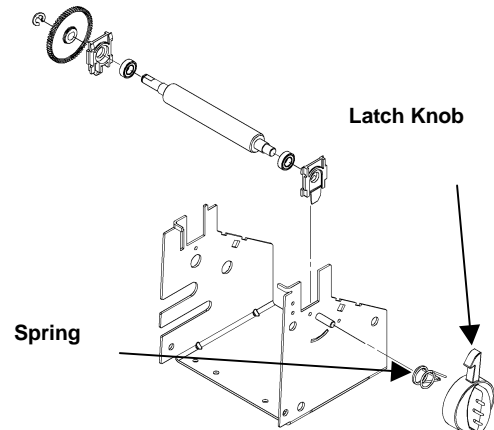

Figure 6-7. Latch Removal
3. With the printhead latched, remove the latch fascia. See Figure 6-7.